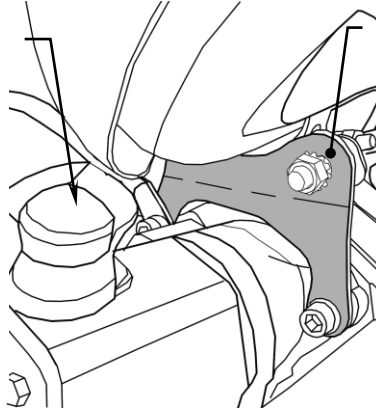
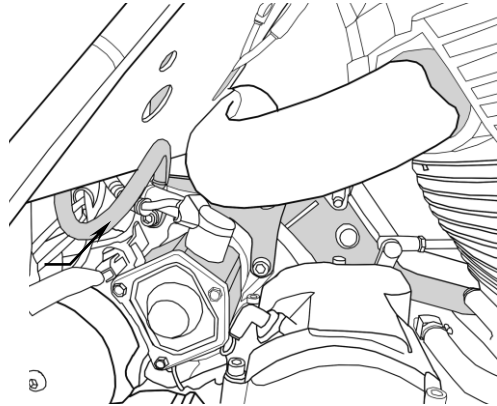

FIGURE 1.
FIGURE 2.
4. Remove the stock rear headpipe support-mounting bracket by removing the two starter mounting bolts, this bracket will not be reused. Note: use caution when removing the bolts so that any tools used do not come in contact with the positive post on the starter. Install the Cobra supplied, exhaust support-mounting bracket, see Figure 1. Make sure the battery ground cable is properly routed and secure, see Figure 2.